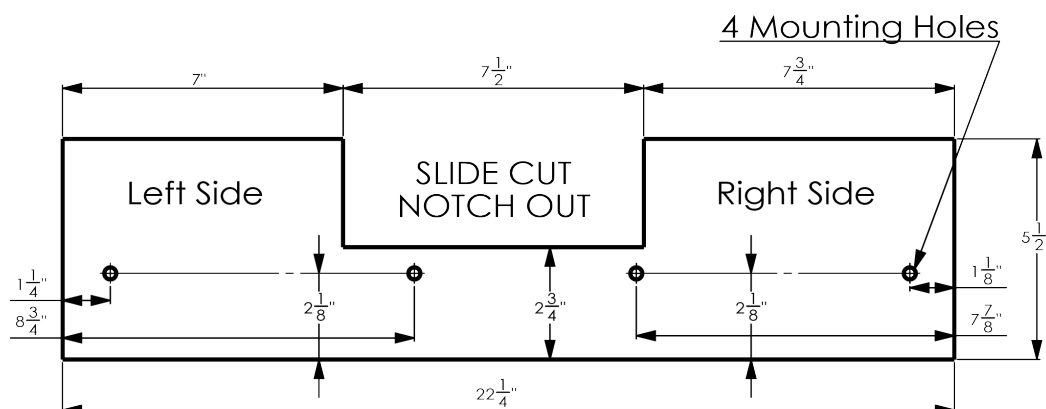

Figure 26
1. See figure 26 for auxiliary fence dimensions.
7. The notch shown in figure 26 must be cut out in order to make slide cuts using the auxiliary fence.